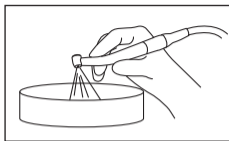

Fig. 10
- 4 Operate the handpiece at the chair-side for at least 20 seconds to purge fluids in the handpiece (Fig. 10). After the handpiece rotation has completely stopped, touch the handpiece head